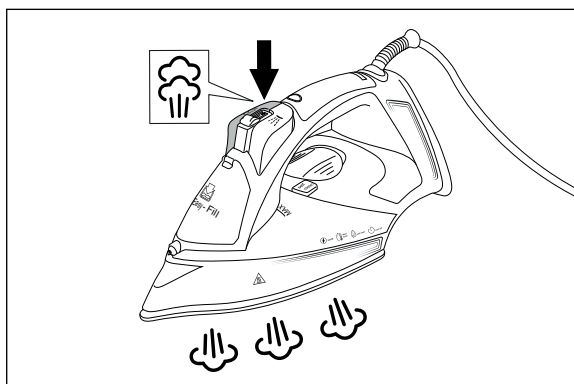

Fig. 6
- 3) Briefly press the steam blast button  **4** several times at intervals of approx. 5 seconds (see Fig. 6).
- 5) Point the water jet **1** at a towel and press the button for the spray function **5** about 20 times (see Fig. 6).
- 9) To decalcify the soleplate ⑪, place the steam iron in a shallow, sufficiently large container (e.g. a shallow bowl). You have previously put the remaining descaling mixture into this container (see step 3).
- 12) Put fresh water in the container and dip the soleplate ⑪ in a few times to rinse it off.
- 13) Remove the steam iron from the container and dry the soleplate ⑪ with a soft cloth.
- After descaling the steam iron, always carry out two rinsing cycles using the **self clean** button ⑫. Without a subsequent thorough rinsing of the water tank ⑬ with tap water or distilled water, the use of a descaling agent is not suitable.